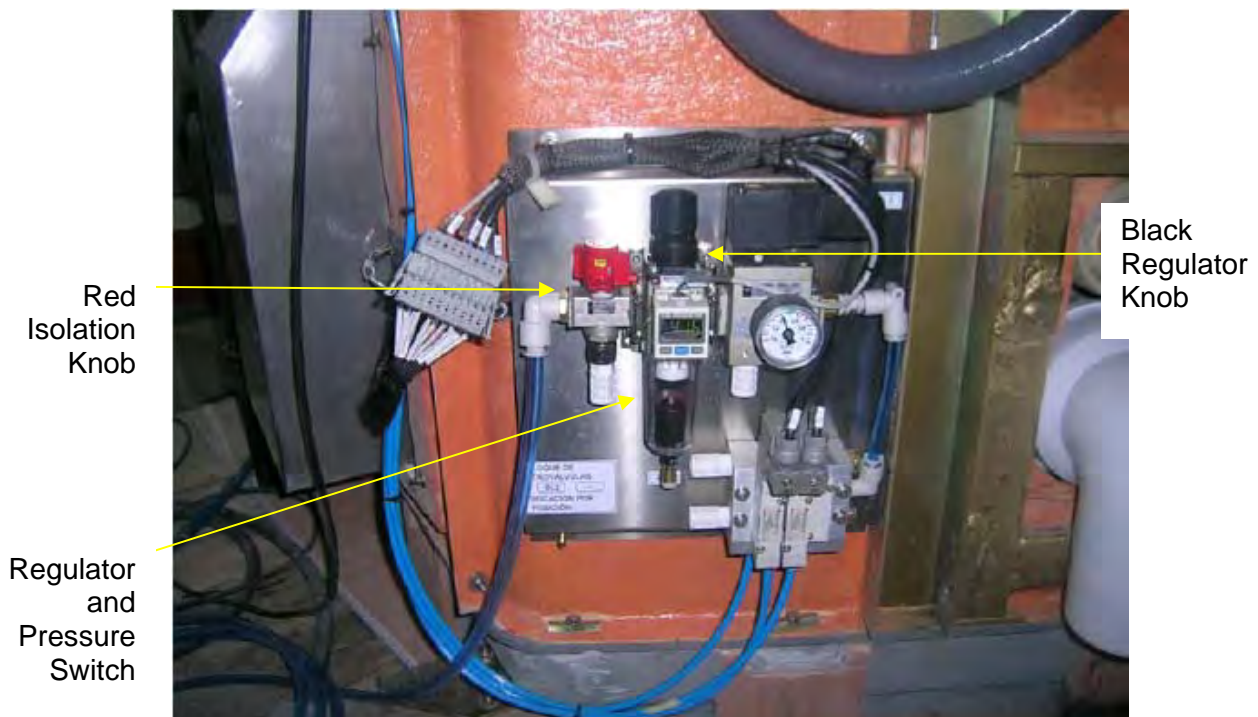

Figure 1: Pneumatic Control Panel
- Isolate the door by turning the red isolation knob through 90° (see Figure 1).
5. Enable the door by turning the red isolation knob (see Figure 1) back to the “In-Line” position.
NOTE 5: If the pressure is incorrect the pressure switch (see Figure 1) will automatically isolate the door system.